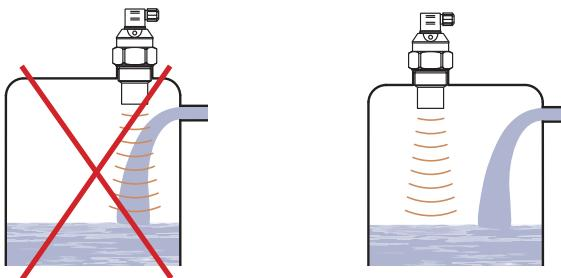

Fig. 7: Level meter installation outside the influence of filling circulation
i) Do not install the level meter in or above the **filling point** (Fig. 7).